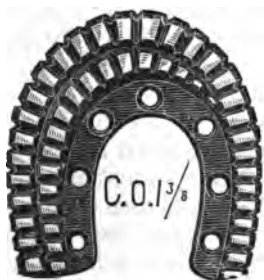

Fig. 53.
**Gare's Heel Tips.**—Gare's Patent Heel Tips are suited to the wear of both feet—in other words, they are rights and lefts. As will be seen, advantage has been taken of the knowledge that the heaviest wear falls upon the outside of the boot or shoe, and there, as Figs. 53 and 54 illustrate, extra metal has been supplied. By the lightening of the inner range, this great advantage has been obtained without materially increasing their weight. They are made from the best malleable iron, and are easily attached.